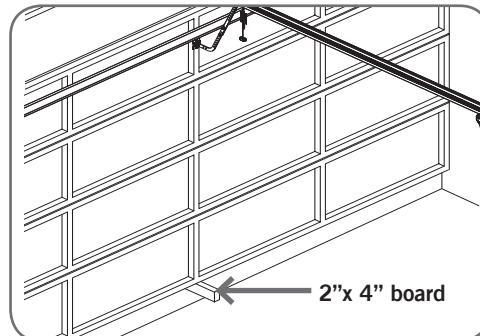

Fig.6.5.2
- Place an object approximately 1-1/2"(38mm) high (or a 2"x 4" board laid flat) on the floor under center of garage door opening (**Fig.6.5.2**).